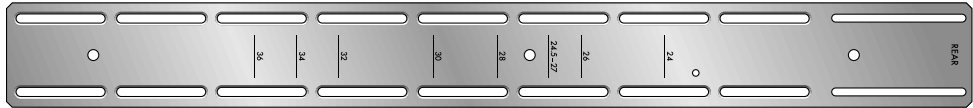

Figure 2-2 Side Bracket With Alignment Marks
- a. Use the alignment marks (Figure 2-2) stamped into the side brackets to position the brackets and screws. The alignment marks show depth in inches.